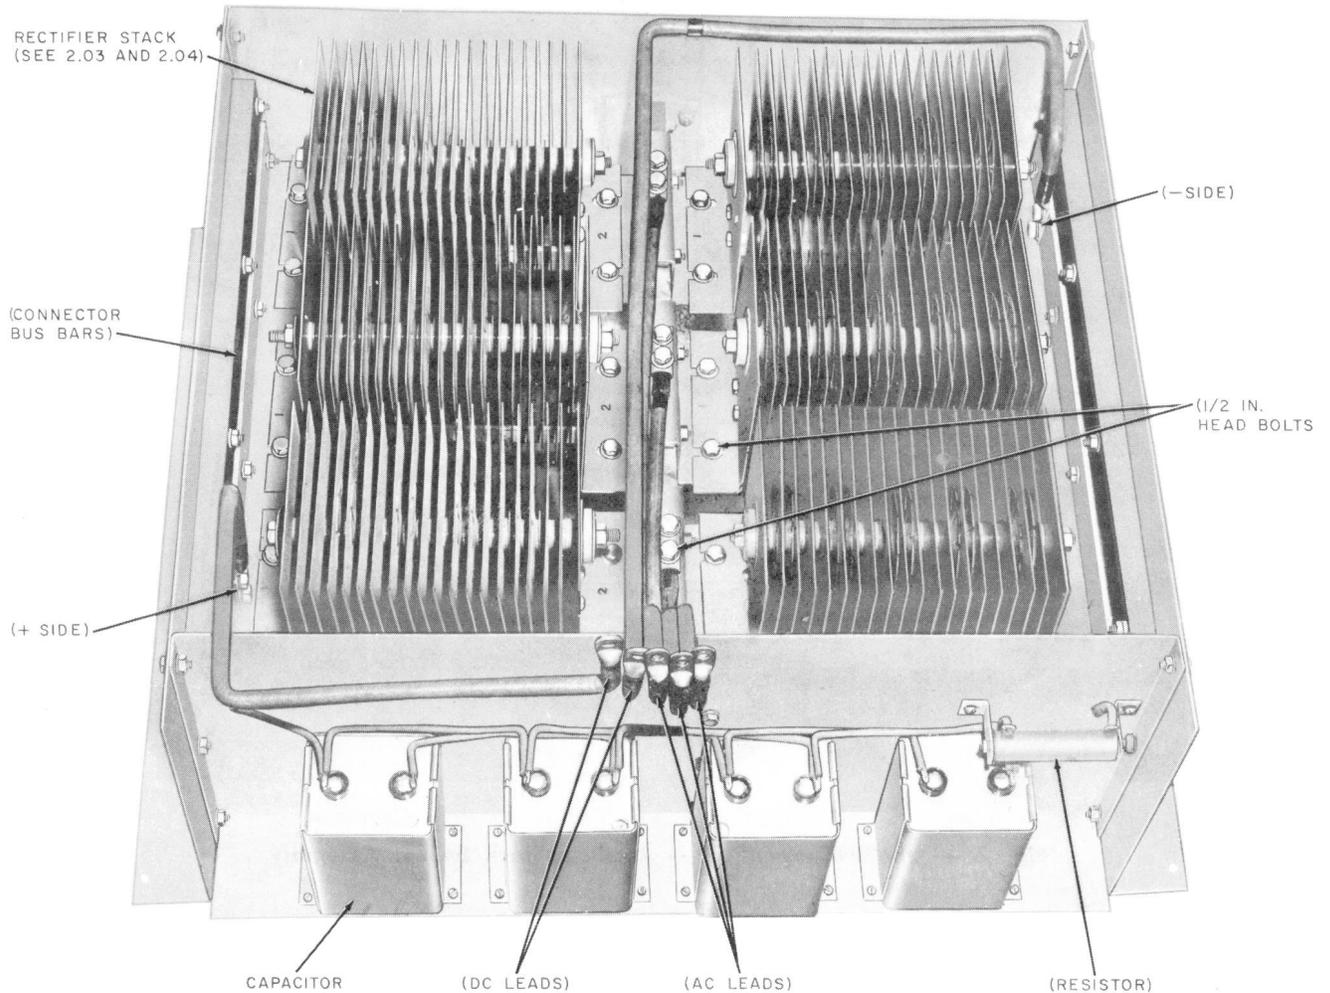

Fig. 1 — Typical Rectifier Stack Basket Assembly — Front View
2. REPLACEMENT PARTS (Fig. 1 and 2)
3.06 Remove the rectifier stack basket as follows (see Fig. 1, 2, 4, and 6).
3.08 Installation of New Rectifier Stacks in the Basket: [See Fig. 1 and 2, and Par. 307(a).]